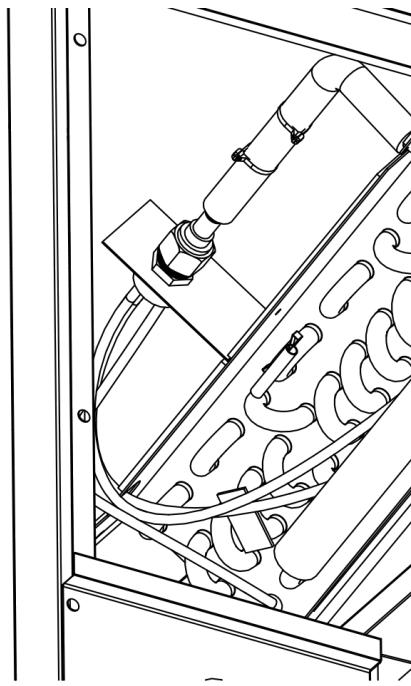

Figure 31. Attach and tighten connection nut straight to distributor (iSeries coils only)
1. Cut the zip ties holding the liquid line in place before installing the TXV. Install the white Teflon o-ring in both connections of the TXV (Figure 25). Attach and tighten lower connecting nut to the distributor as shown in Figure 25. On iSERIES, connect liquid line directly to the distributor (Figure 31).
For the iSeries coil, connect the small tube directory to the distributor, where the TXV would normally be located (Figure 31).